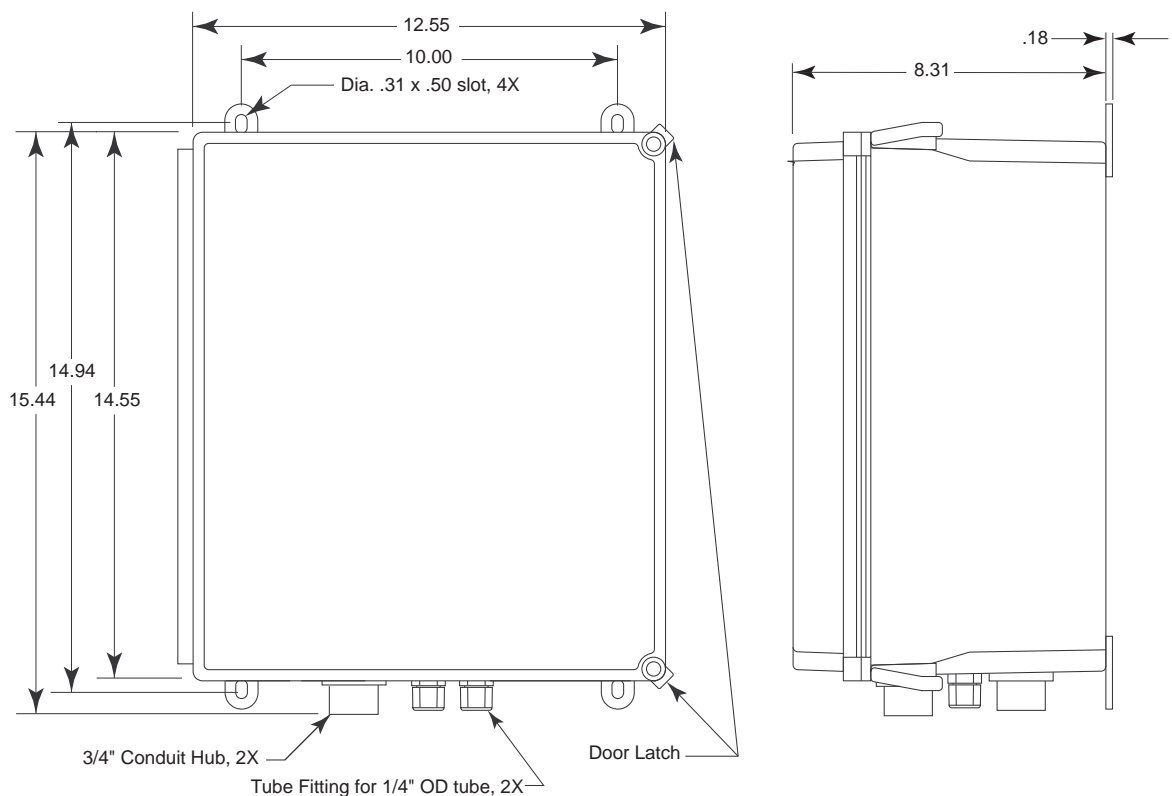

Figure 4: Mounting the Sample Draw Detector
3. Slightly loosen the screw that secures one of the mounting feet to the housing, then rotate the mounting foot 180 degrees (see Figure 4).